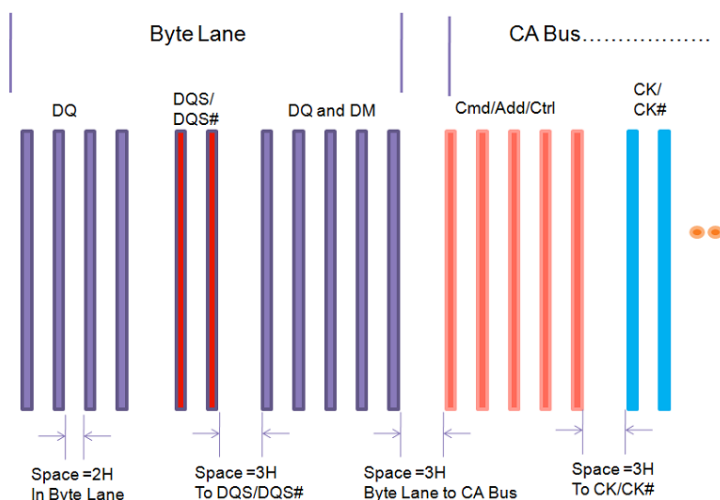

Figure 4-5 Spacing between Different Signal Groups
- The crosstalk and characteristic impedance of an array of traces are interrelated. In order to minimize crosstalk, the characteristic impedance of a trace should be determined predominantly by the distance to the reference plane and not the distance to the neighboring traces. To achieve this, the space between traces should be twice the height of the trace above the ground plane. Figure4-5 shows the recommended spacing (“H” means the height from reference plane.).
- VREF is used as a reference by the input buffers of the DDR3 memories. It is recommended to be 1/2 of the DDR3 power supply voltage and should be created using a resistive divider as shown in the schematic. Other methods are not recommended. Figure 4-5 shows the layout guidelines for VREF.